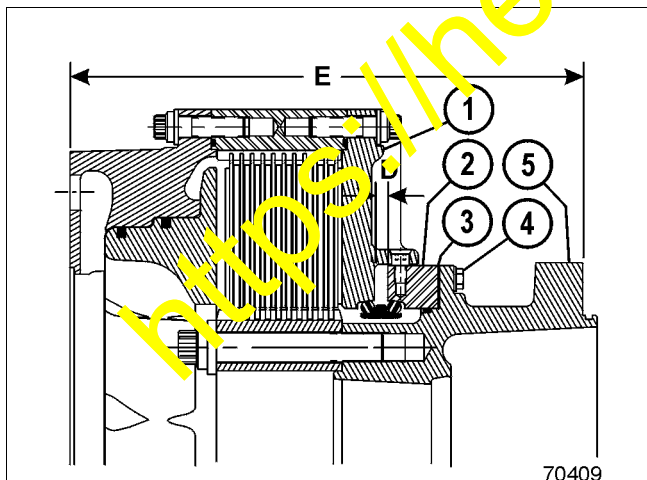

FIGURE 1. 930-1 WHEEL MOTOR SEAL
1. Refer to Figure 1 and 2. Assemble brake per current applicable procedure, install **ten** 0.51 mm (0.020 inch) thick shims (3) and **one** 0.25 mm (0.010 inch) thick shim (3) at each shim location around seal carrier.